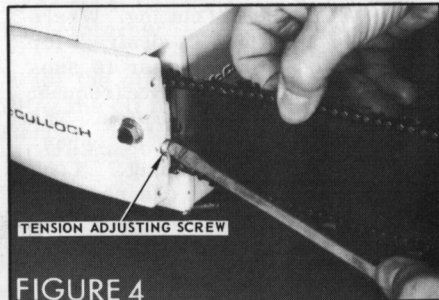

FIGURE 4
2. With the bar nose or rounded end of the bar held up, turn the tension adjusting screw clockwise to tighten the chain. Turn the screw counterclockwise to loosen the chain. See Figure 4.